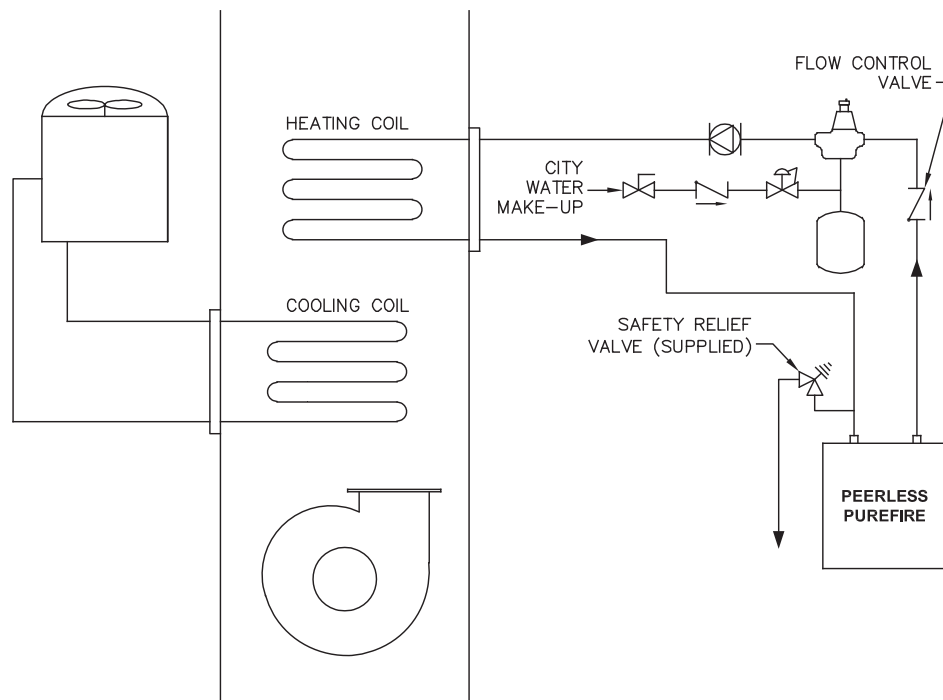

Figure 4.9: Boiler Connected to a Heating Coil in a Forced Air System
2. For boilers connected to heating coils in a forced air system where they may be exposed to chilled air circulation, install flow control valves or other automatic means to prevent gravity circulation of the boiler water during cooling cycles. See Figure 4.9 for an illustration.